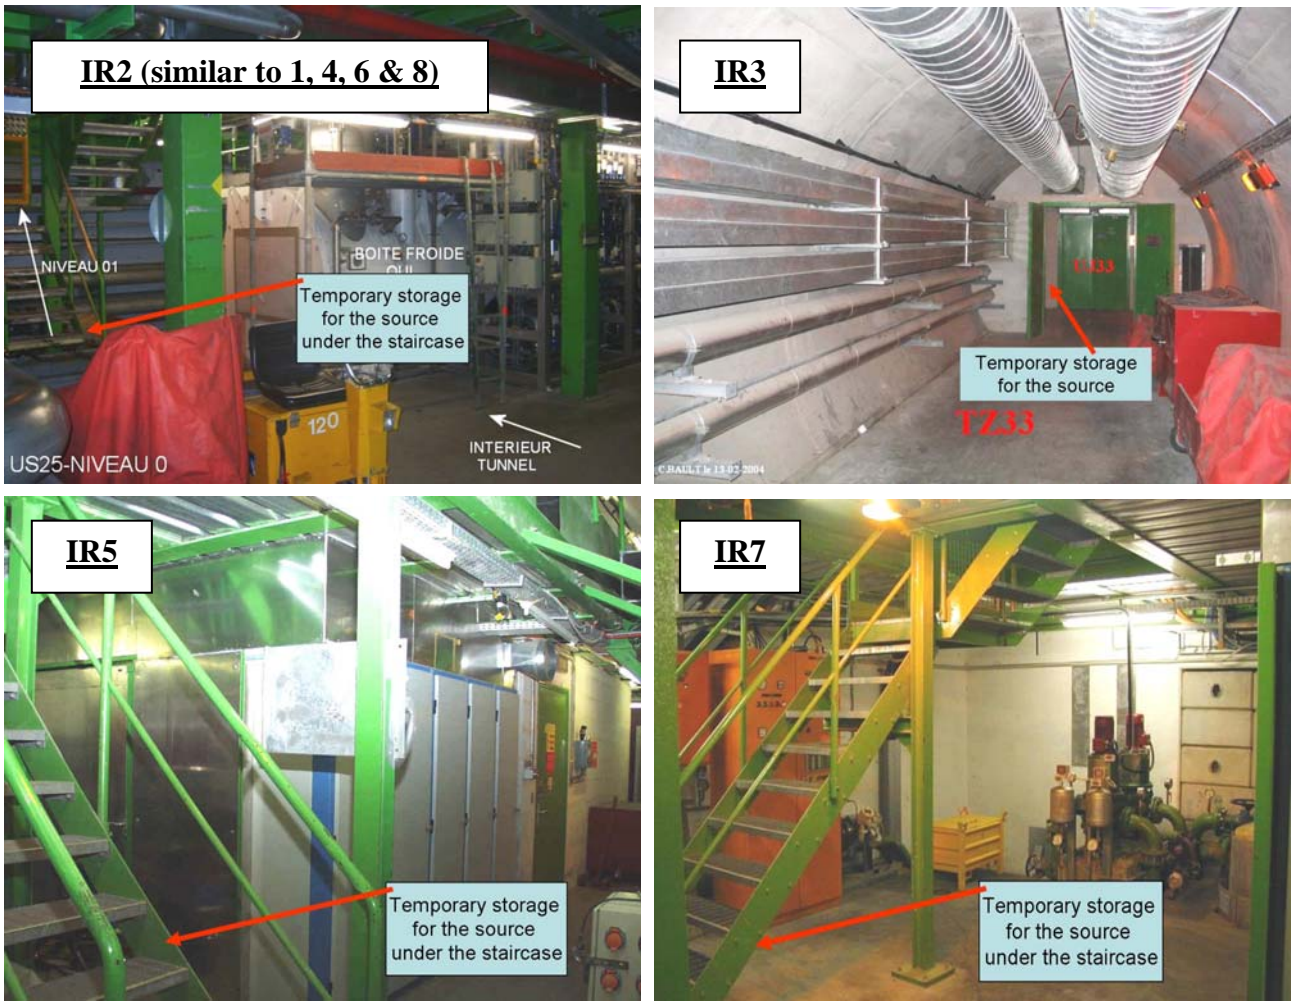

Figure 2 Pictures of the storage place in LHC tunnel
- The procedure starting at item 1) is now repeated
- Then the irradiator is moved to one of its parking position listed below (pictures shown below in Figure 2):